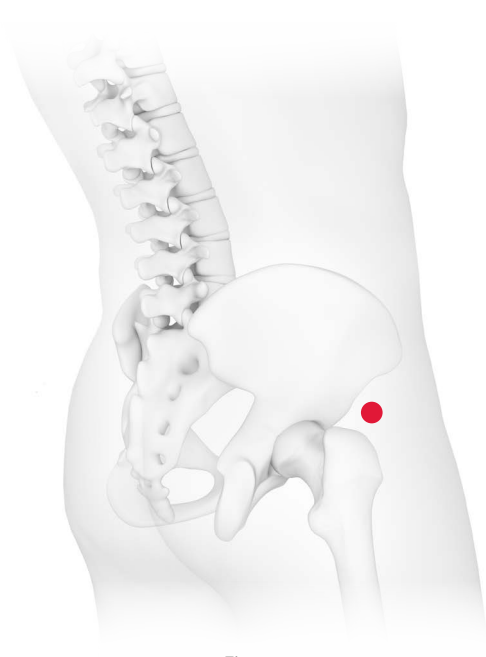

Fig. 14
- Aim for anterior inferior iliac spine, which can be found by palpating the top of the greater trochanter (Fig. 14)